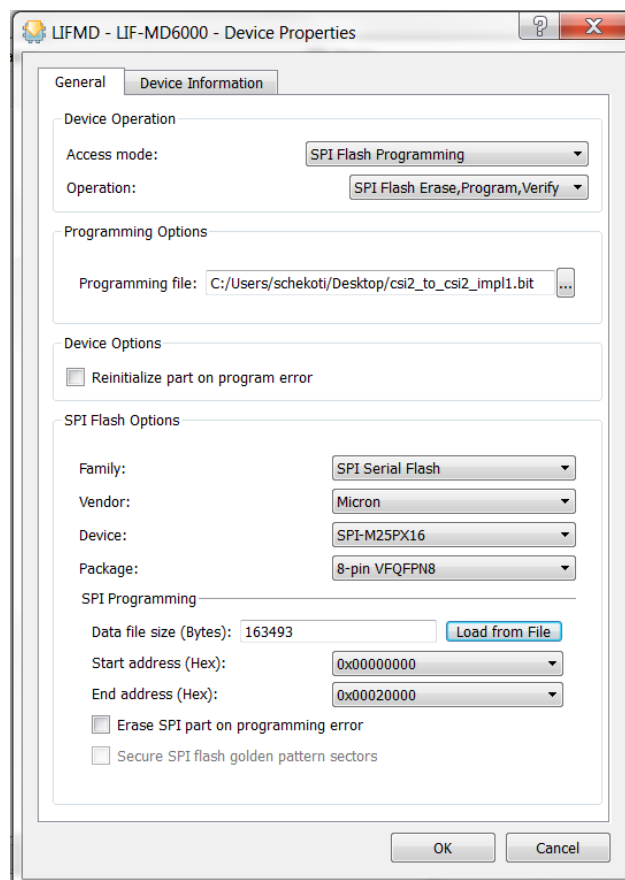

Figure 5.3. LIF-MD6000 Device Properties
6. Select the options for the External SPI Flash on the board as shown in Figure 5.3.